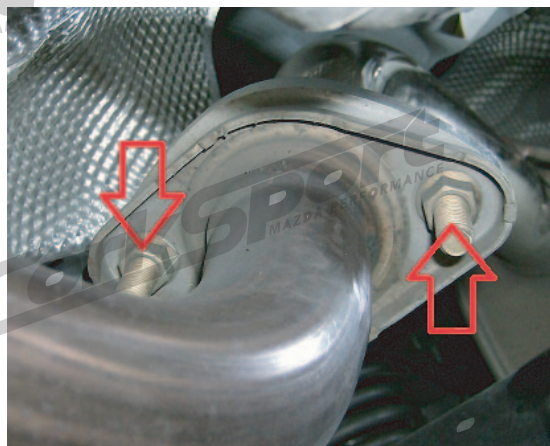

Figure 1B
B) Using a 14mm socket and ratcheting wrench, remove the two (2) nuts holding the muffler section of the exhaust to the mid pipe section as shown by the red arrows in Figure 1B.